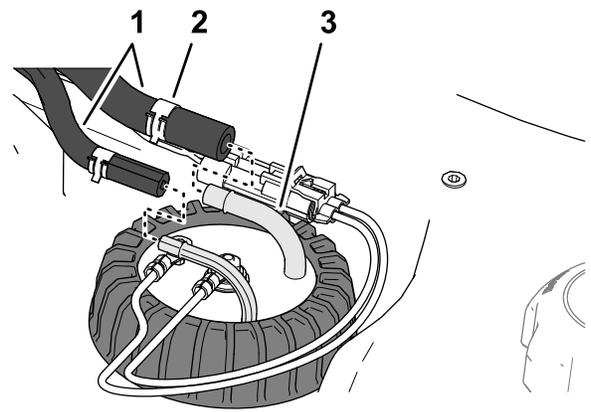

Figure 92
5. Assemble the hose onto the fittings of the fuel sender, and secure the hoses to the fittings with the clamps (Figure 92).